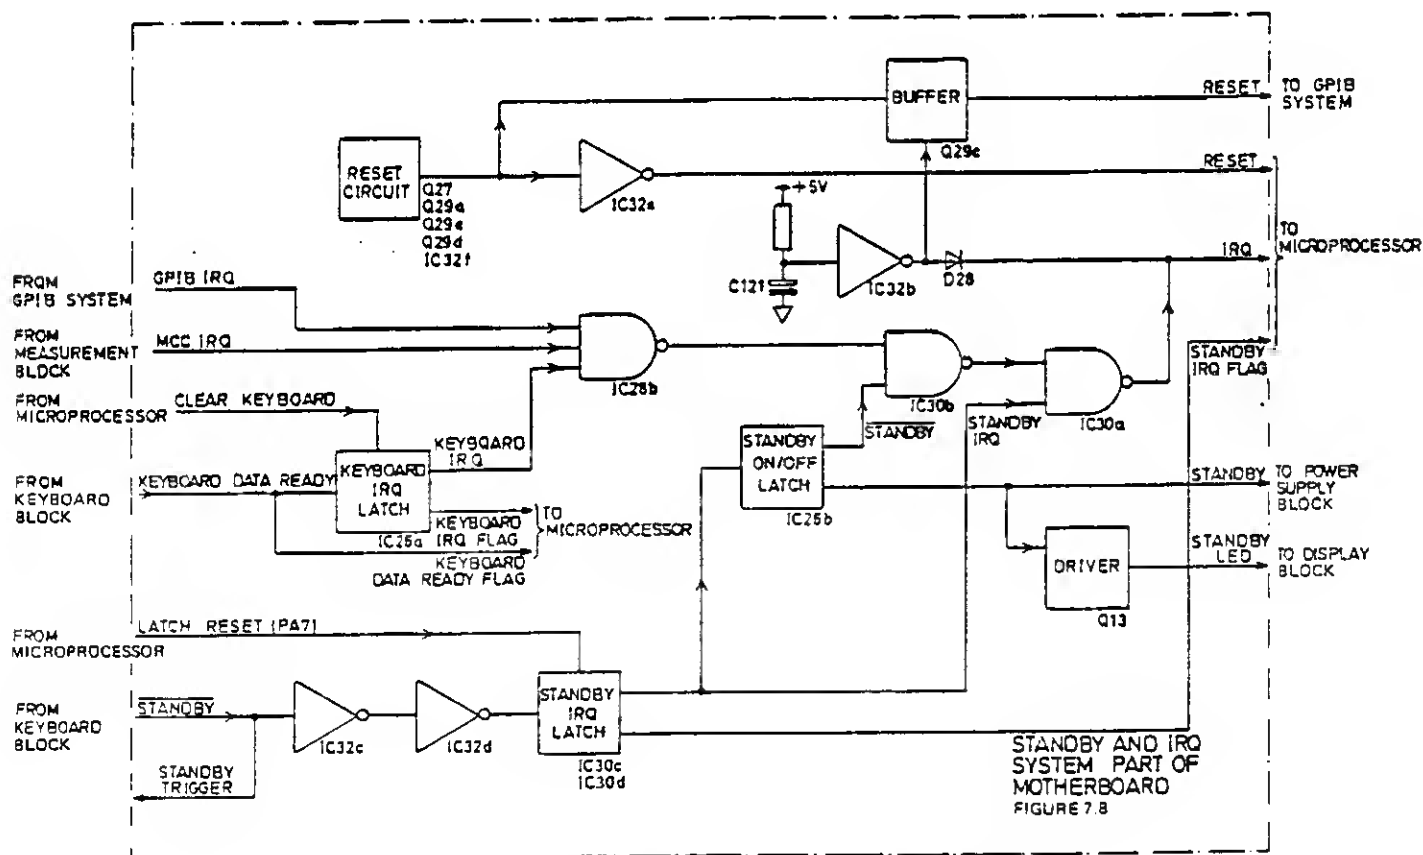

Figure 5.9 - Standby and IRQ Block Diagram
5.3.7.1.1 This block generates reset signals for the microprocessor and GPIB interface, and the standby switching signal for the power supply system. It also combines the IRQ signals from the GPIB interface, the measurement block, and the keyboard block for connection to the microprocessor. A block diagram is given in Figure 5.9.